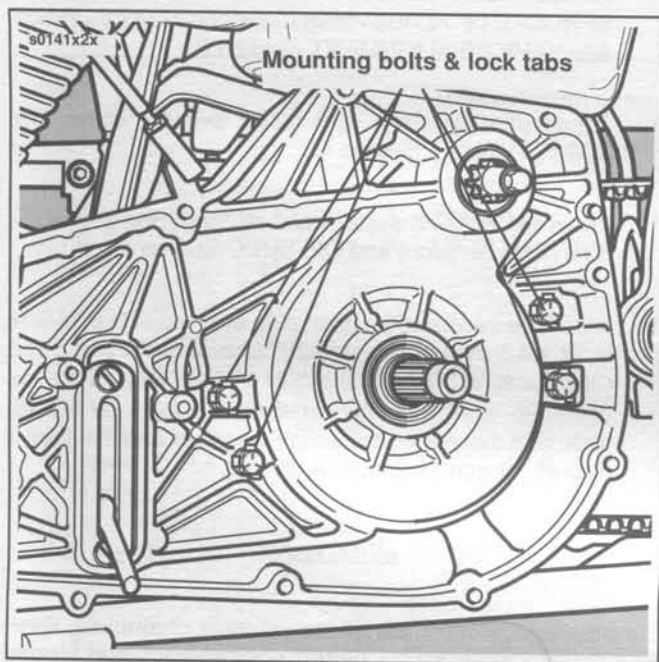

Figure 7-25. Transmission to Primary Mounting Bolts
3. See Figure 7-25. Remove engine and transmission mounting bolts and locking tabs. Remove primary chain-case.